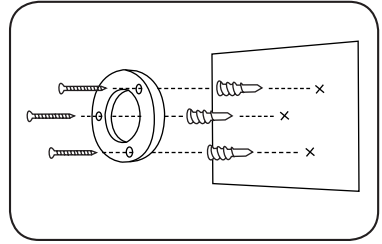

Fig. 18: You can mount the retainer ring in any direction, there is no up or down.
2. Hold the base in the desired location and mark three (3) screw holes with pencil.
- For drywall, drill a 1/4" (7.5mm) pilot hole and use a screwdriver to drive the provided white plastic anchors into the wall. **(Fig. 18)**